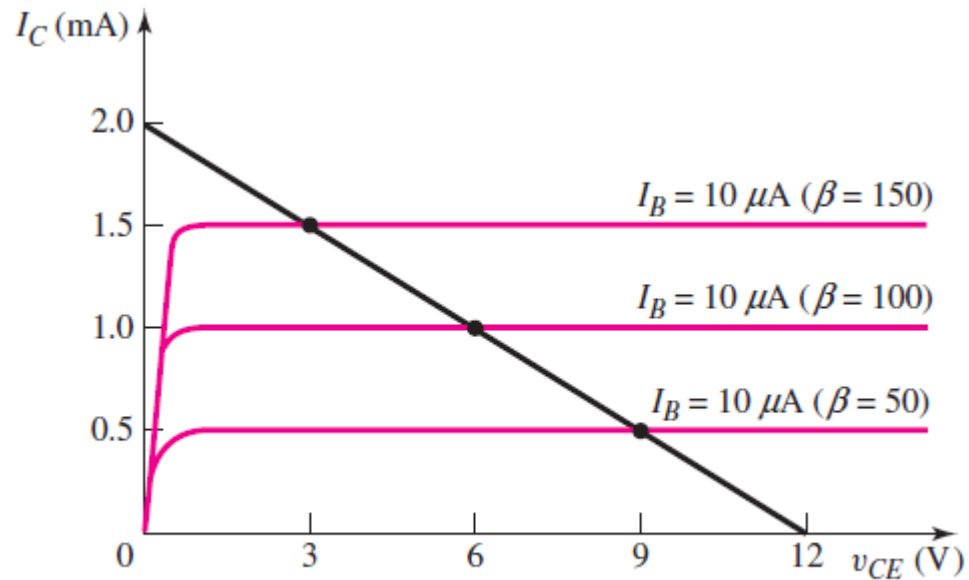

Figure 5.52 (b)
- The variation in  $Q$ -points for this circuit configuration is to be compared with the variation in  $Q$ -point values shown previously in Figure 5.52(b).